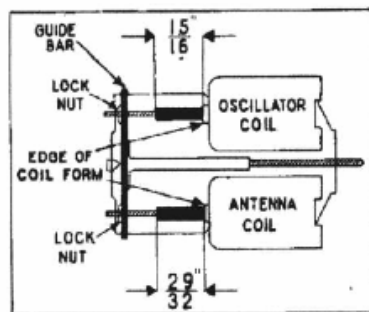

FIG. 2
CALIBRATE DIAL AS SHOWN UNDER HEADING "DIAL CALIBRATION" OVER FIG. 2 BELOW
- Loosen the lock nuts at the ends of the threaded tuning core shafts (see Fig. 2 below).
- Rotate each tuning core so it extends out of the coil form exactly the amount shown in Fig. 2, below. Hold the core stationary, tighten the lock nut on the oscillator core (top coil) (see Fig. 2 below). Use a small amount of speaker cement on the lock nut to insure against change in setting. Do not tighten the lock nut on the antenna core as further adjustment is necessary.